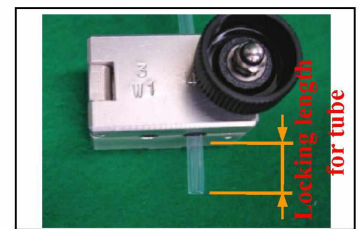

Fig. 75 - Clamping the tube
- Lock the tube to the tube holder referring to the dimension of Table 28 (see Fig. 75).